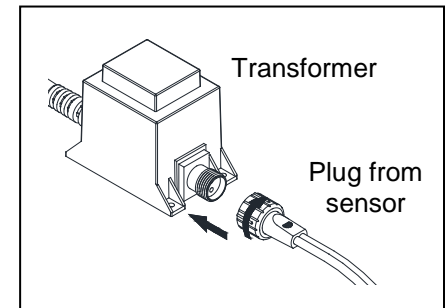

Fig. 5
- Connect the sensor to the transformer by pushing the plug into the transformer socket until it is firmly seated. Hand tighten the nut from the plug to the socket. Fig. 5